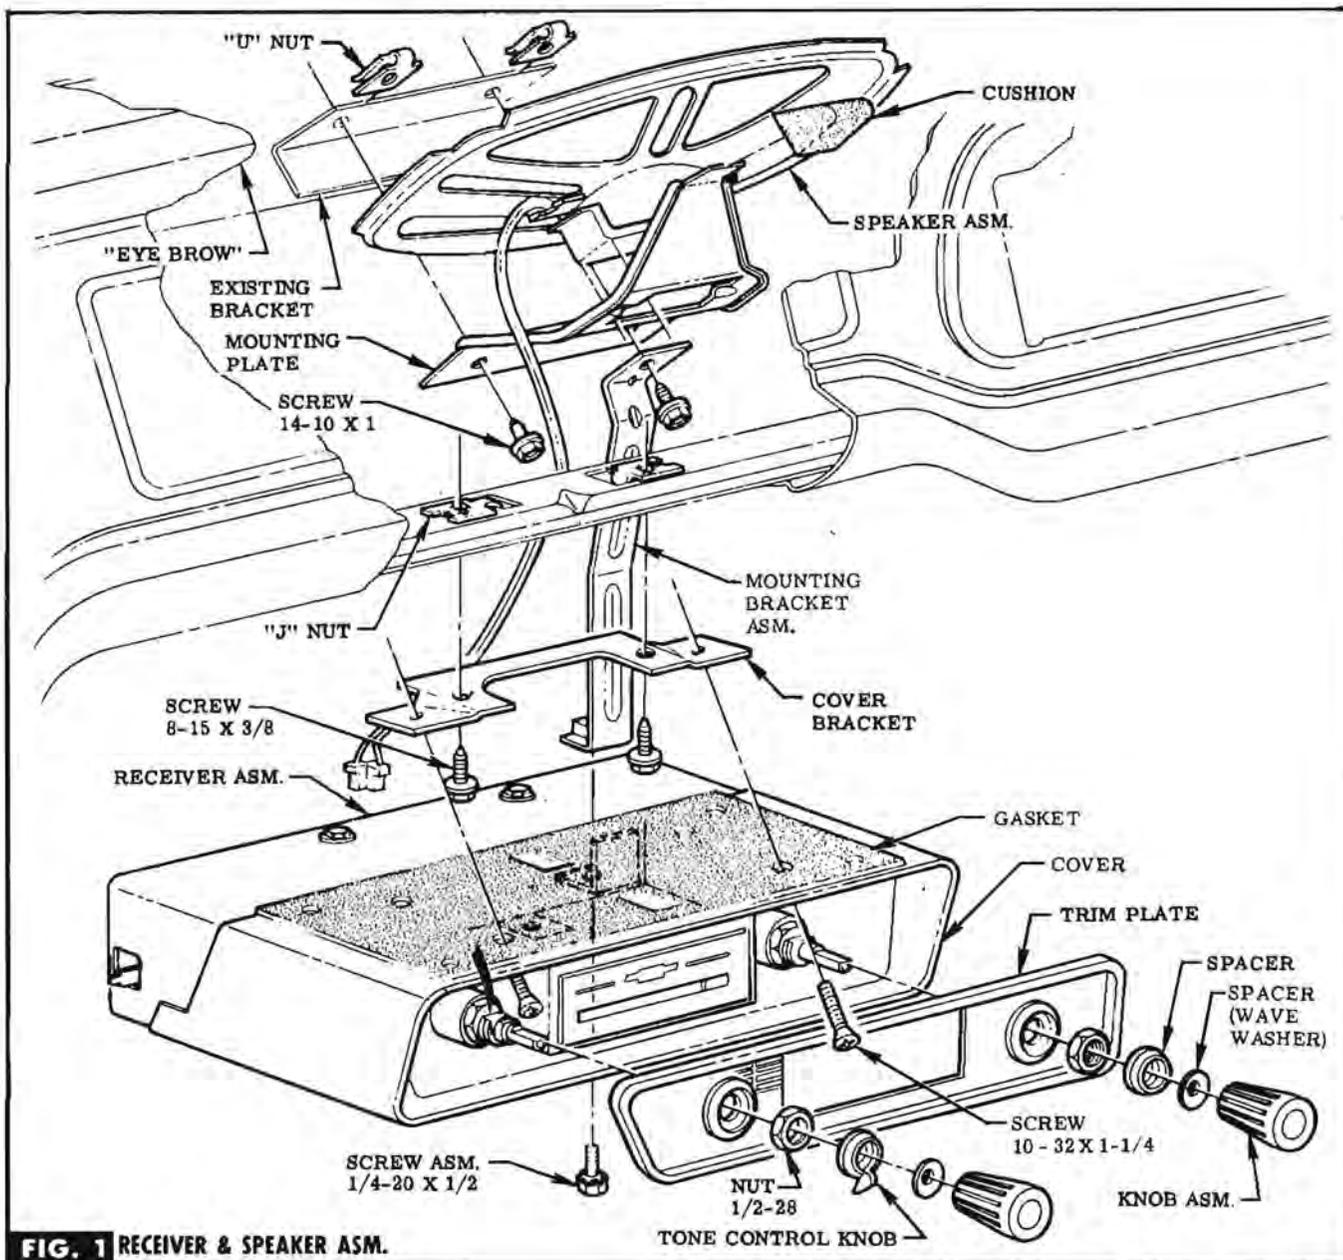

FIG. 1 RECEIVER & SPEAKER ASM.
STEP 1 PUSH CUSHION ONTO TANG OF MOUNTING PLATE. DROP MAGNET END OF SPEAKER THRU HOLE IN MOUNTING PLATE & POSITION MOUNTING PLATE CAREFULLY UNDER INSTRUMENT PANEL, NESTING CUSHIONED END OF PLATE INTO PANEL "EYE BROW". SEE FIG. 1.
PANEL & ATTACH FORWARD END OF MOUNTING PLATE & MOUNTING BRACKET TO EXISTING BRACKET ON DASH PANEL WITH "U" NUTS & SCREWS. SEE FIG. 1.
STEP 3 ATTACH COVER BRACKET TO INSTRUMENT PANEL REINFORCEMENT WITH "J" NUTS & SCREWS. SEE FIG. 1.
STEP 4 SLIDE RECEIVER INTO COVER & ATTACH TRIM PLATE WITH NUTS. SEE FIG. 1.
STEP 5 SLIP SPACERS ONTO R.H. CONTROL SHAFT, & TONE CONTROL KNOB & SPACER ONTO L.H. CONTROL SHAFT. PRESS A KNOB ONTO EACH SHAFT END. SEE FIG. 1.
STEP 6 POSITION GASKET ON COVER & ATTACH COVER TO COVER BRACKET WITH SCREWS. ATTACH MOUNTING BRACKET TO RECEIVER WITH SCREW. SEE FIG. 1.